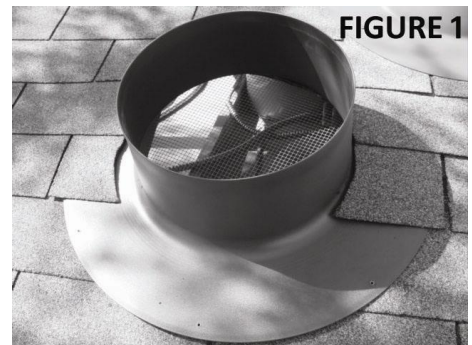

FIGURE 1
STEP 1: Once you find the ideal location, make a hole just big enough to reach inside the attic to make sure there are no roof beams or wires in the way. Use the supplied template to mark the final hole centered between roof beams and cut using a reciprocating saw. At the 9:00 and 3:00 o'clock positions of the hole, cut two 5" long slits through the shingles and tar paper and pull or cut nails from slit to slit towards the peak. Apply roof caulking to the bottom side of the roof flashing and slide flashing underneath tar paper (**Figure 1**), centering with hole and securing to the roof with (8) #8 x 2" self-tapping stainless steel or corrosion resistant screws (*supplied*).